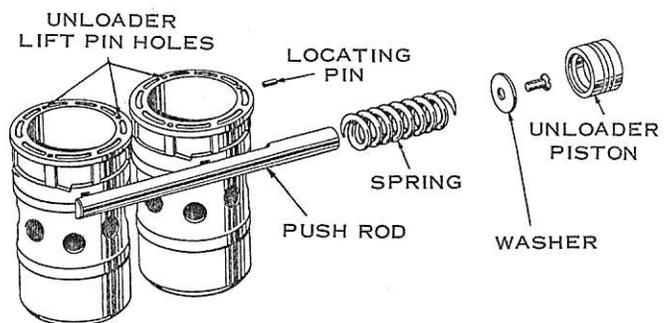

FIG. 45—Unloader Mechanism
2. Remove the oil piping to the unloader cover plate. Carefully remove the unloader cover plate so that the unloader piston, under tension from its spring, does not come out. (See Fig. 45.)